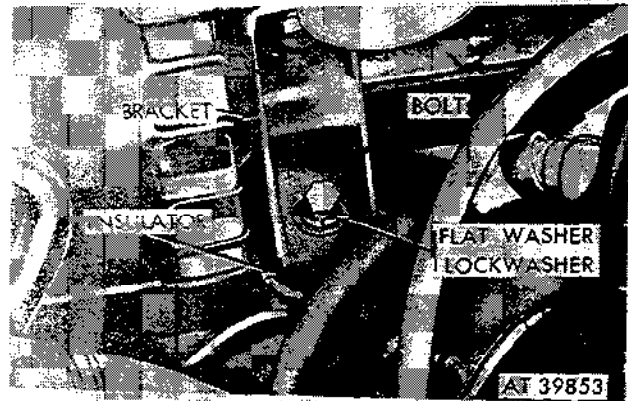

Figure 2-55. Left front bracket.
(4) Remove left front support mounting bolt and washers (fig. 2-55).